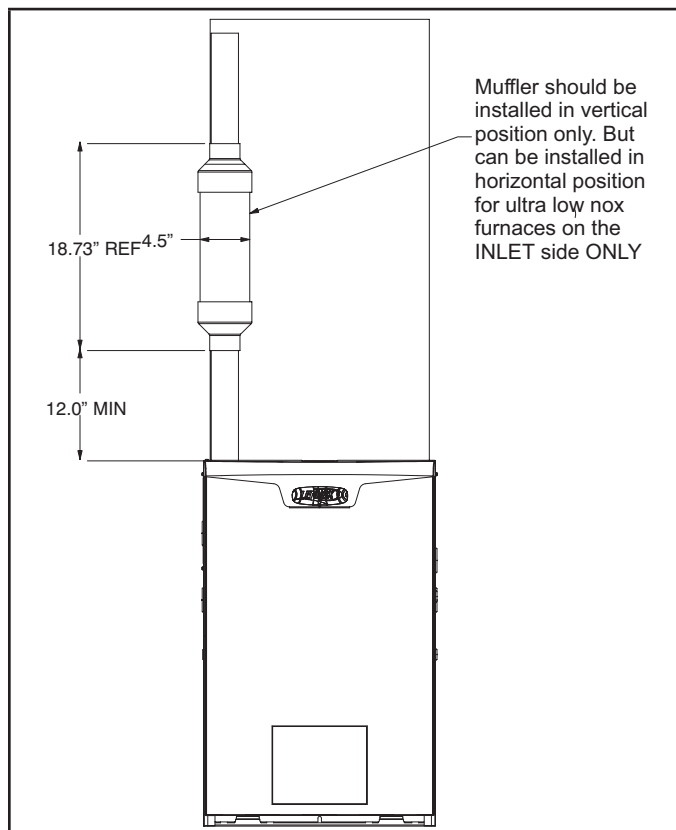

FIGURE 1
- 2 - Install and cement the muffler. Refer to figure 1.